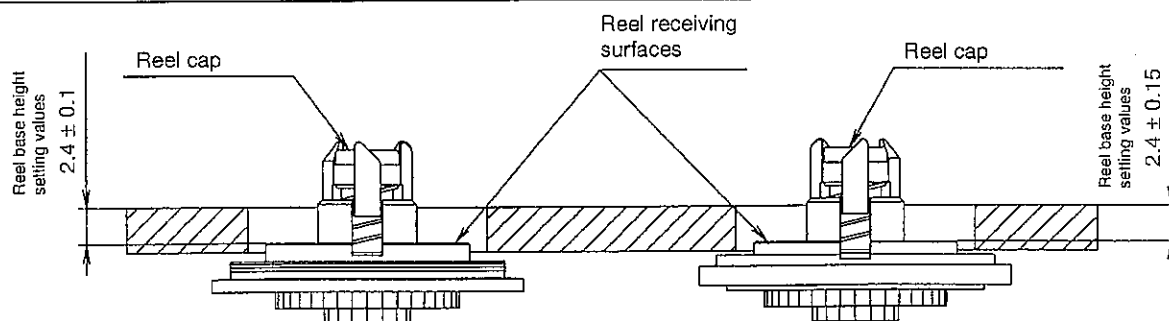

Fig. 4.
(4) Confirm that the heights of the S reel base reel receiving surface and the Tu reel base reel receiving surface below the master plane top surface are within the set values, using, for example, a slide calliper (Fig. 4).
(5) If these heights are not within the set values, turn the reel cap with a height adjustment screwdriver to adjust until they are within the set values.